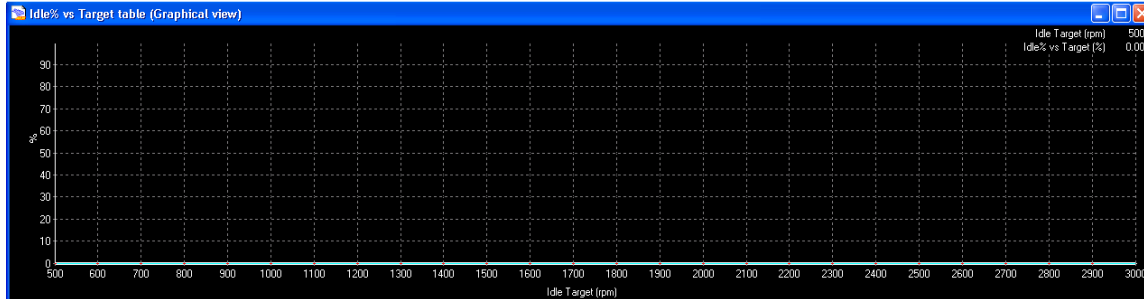

Figure 5 – Temporarily set the *Idle% vs. Target* table to zero
- Edit the *Idle% vs. Target* table, as in *Figure 5*, such that all breakpoints are at zero (0) percent.